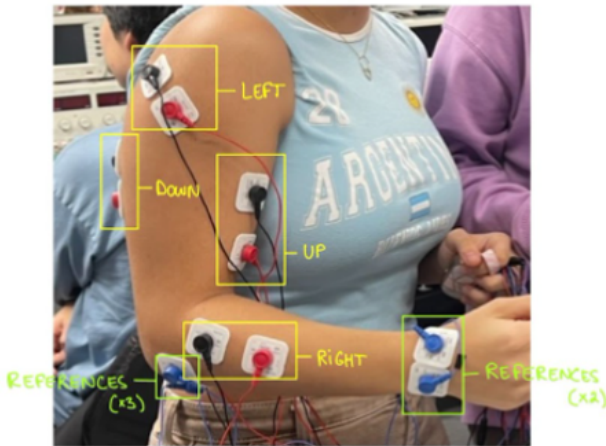

Figure 7. Image showing the electrodes position
- Location of electrodes (Figure 7). This was chosen based on the 5 physiological movements: flexion for up, extension for down, clenching for click, supination of forearm for right, and shoulder extension for left.